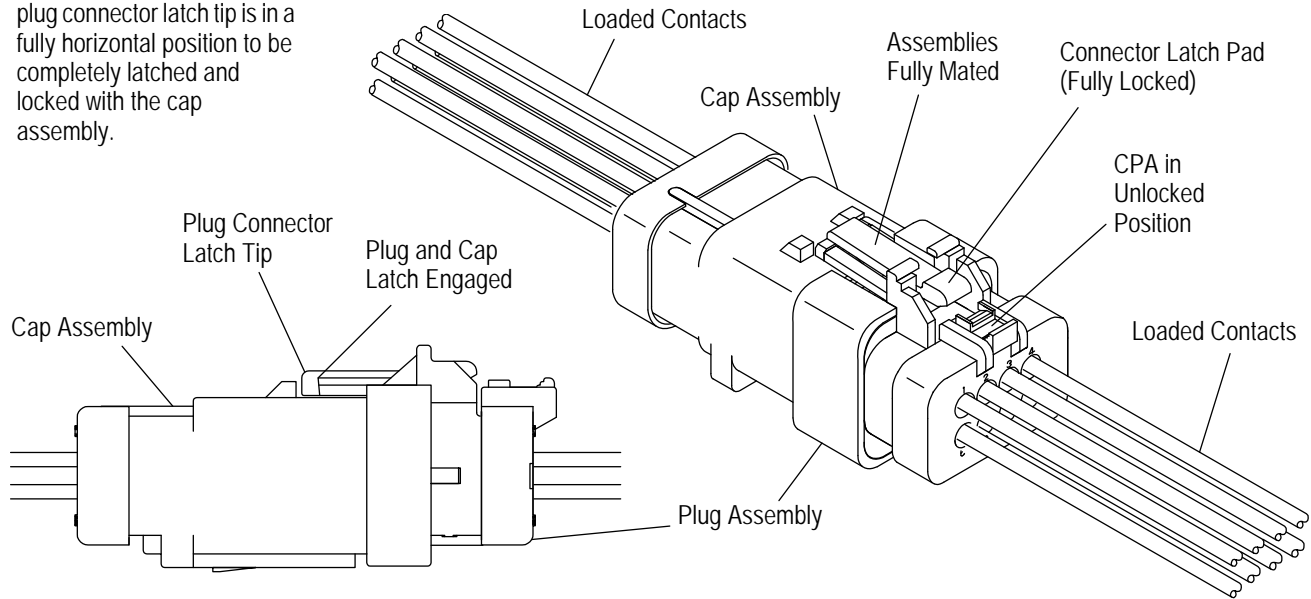

Figure 6
6. When all the contacts have been locked securely into the housing assemblies, complete the assembly of the connector system by mating the plug assembly with the cap housing assembly or pc board mounted header until the connector latch is in the fully locked position. An audible “click” will be heard. See Figure 6.